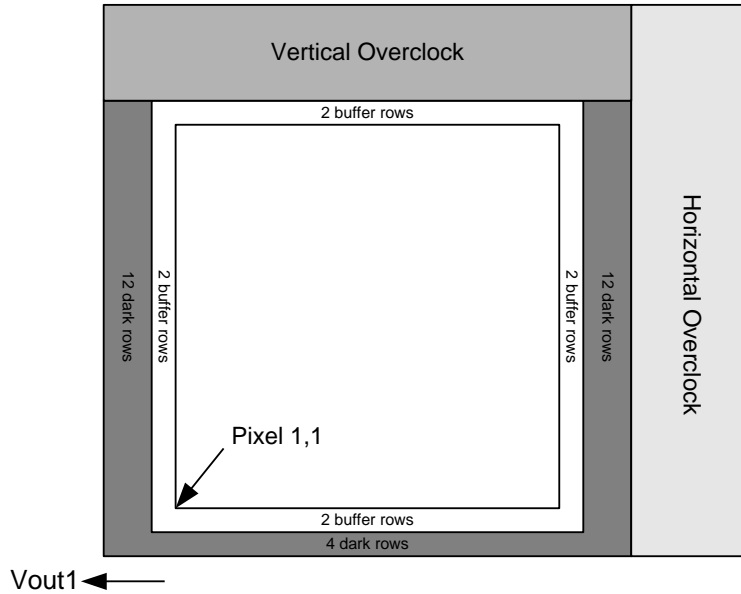

Figure 15: Regions of Interest
The defect map supplied with each sensor is based upon testing at an ambient (27°C) temperature. Minor point defects are not included in the defect map. All defective pixels are referenced to pixel 1, 1 in the defect map (see Figure 15: Regions of Interest).
1. Only the active pixels are used for performance and defect tests. See Figure 15.
Signal levels are calculated by using the average of the region of interest under test and subtracting off the horizontal overflow region. The test system timing is configured such that the sensor is overflowed in both the vertical and horizontal directions. See Figure 15 for a pictorial representation of the regions.